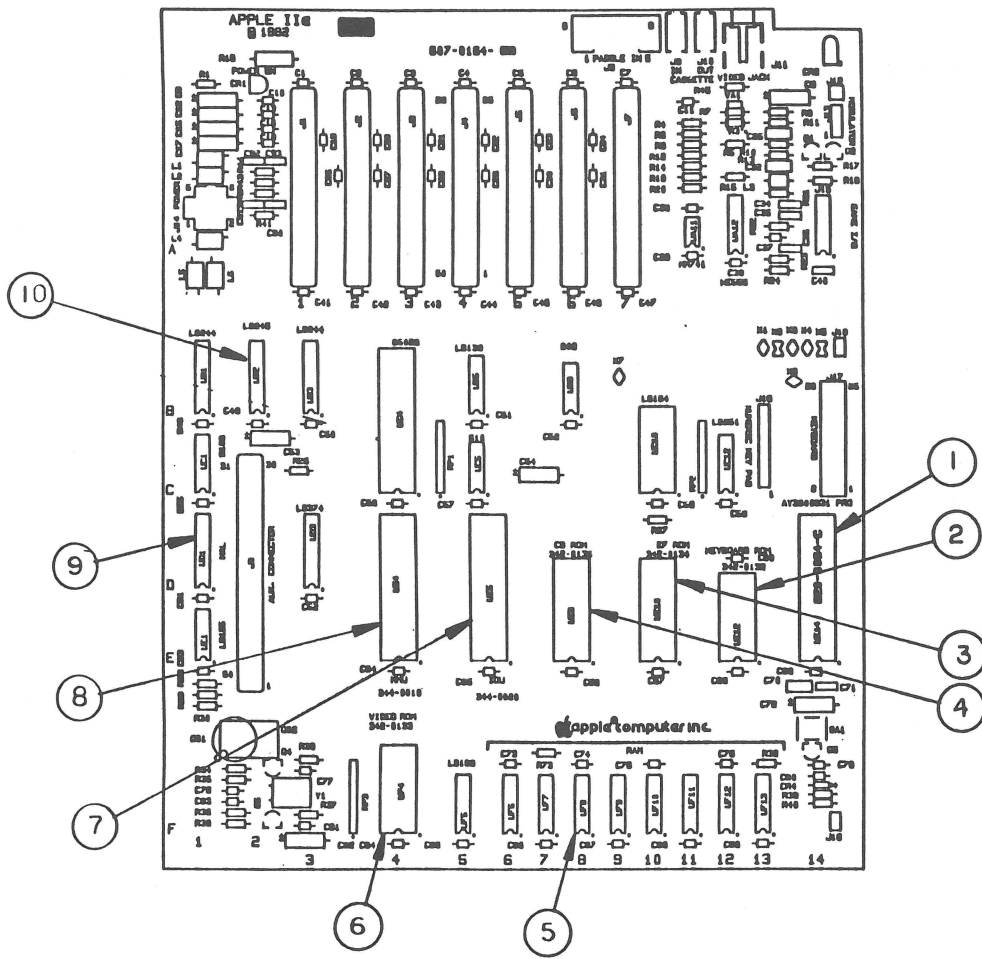

FIGURE 3
- IPL.7 Logic Board (Figure 3)
□ LOGIC BOARD (Figure 3)